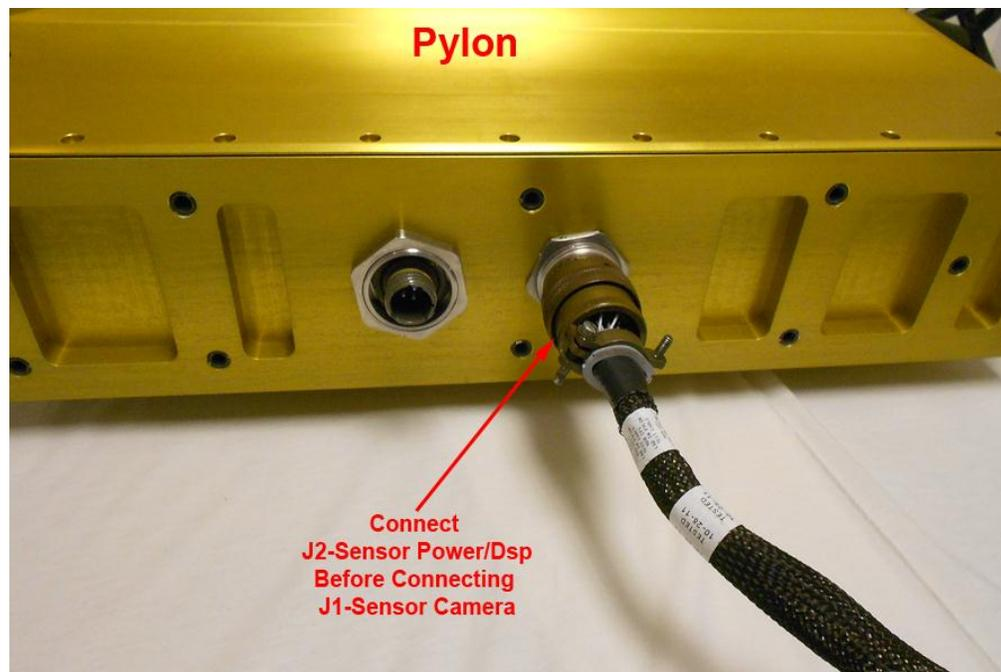

Figure 2.2.13. Connecting the power/DSP cable to the sensor head.
See **Figure 2.2.13**: Connecting the power/dsp cable to the Pylon.
7. Connect the power/DSP cable that runs from J2 on the DAS to J2 on the sensor head. See **Figure 2.2.13**: Connecting the power/DSP cable to the sensor head.